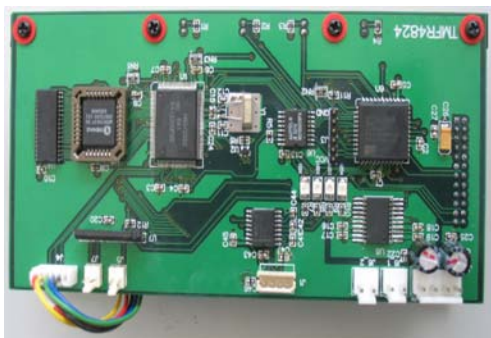
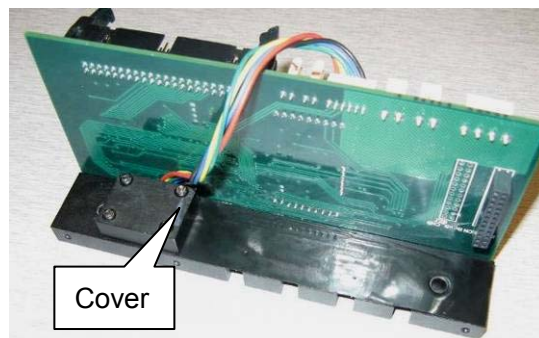
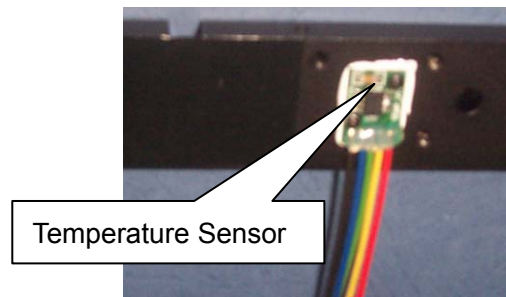

Figure 4-22
Figure 4-23
Figure 4-24
4. Remove 4 screws fixing the front CPU board as shown in Figure 4-22, and carefully remove the front CPU board as shown in Figure 4-23.
5. Remove 4 screws on cover plate as shown in Figure 4-23, and temperature sensor can be seen as shown in Figure 4-24.